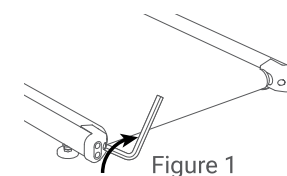

Figure 1
- If the walk belt has shifted to left, use the hex tool to turn the left idler roller screw clockwise **1/4** of a turn(refer to figure 1).